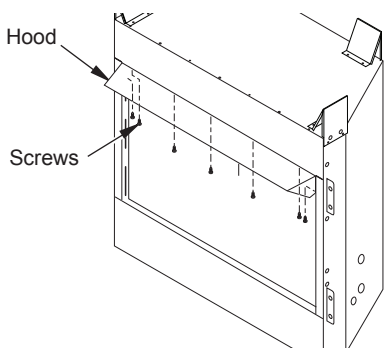

Figure 22 - Screw and Hood Placement
1. Attach hood to firebox using screws provided (see Figure 22).